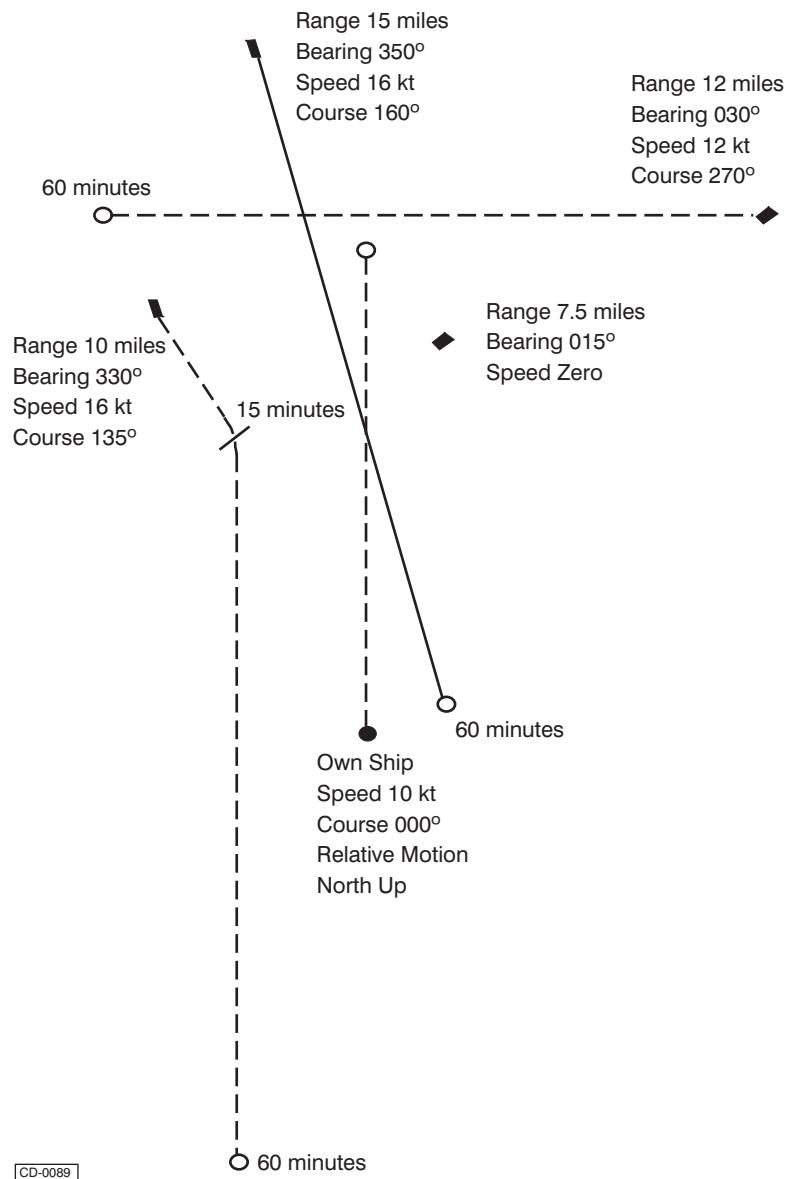

Figure 1 - Four Target Simulation Mode - Known Scenario (At Start of Simulation)
- 22 Based on a known situation this scenario shows the targets moving within a 15 mile radius of the radar origin, refer to Figure 1 - Standard Simulation Mode - Known Scenario (At Start of Simulation).